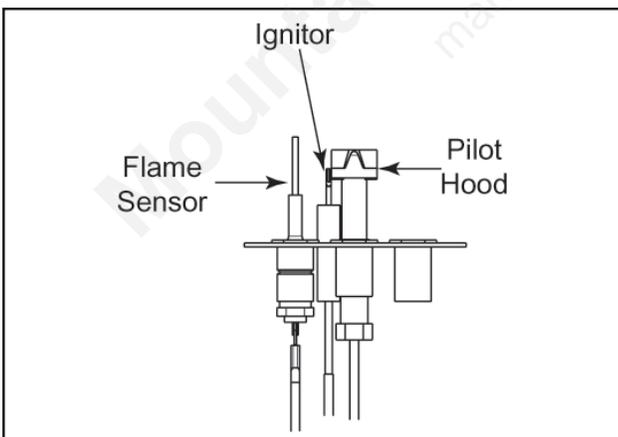

Figure 19 - Intermittent Pilot Ignition Assembly
- a. Check the flame of the burner periodically, making sure the flames are steady, not lifting or floating. The flame color should be blue with yellow tips. The sensor should be covered with flame from the pilot. See Figure 19.